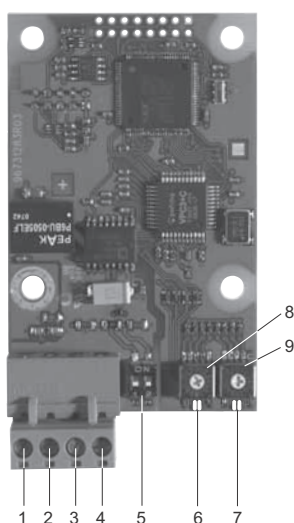

Fig. 10 CIM 150 PROFIBUS module
The power supply, pos. 4, fig. 10, must only be used for external termination.
The CIM 150 PROFIBUS module has two LEDs. See fig. 10.